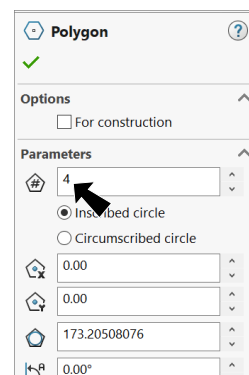

Fig. 27
Step 4. In Polygon Property Manager set: under Parameter, **Fig. 27**